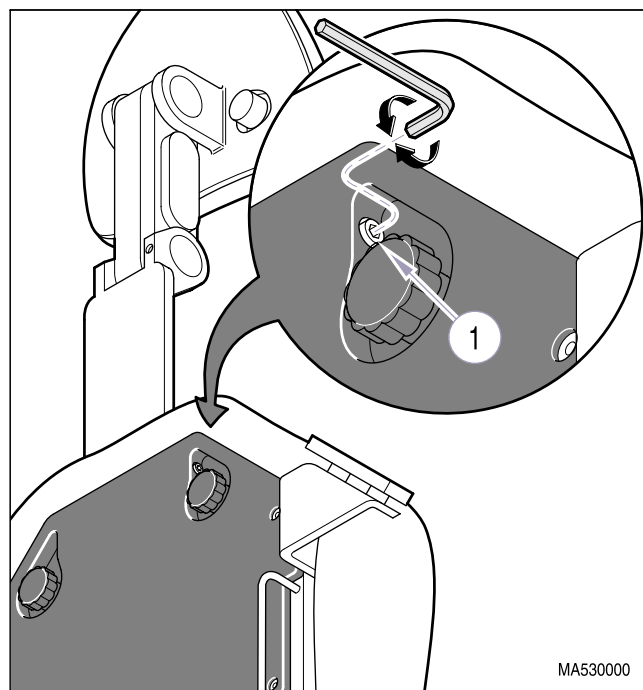

Figure 4-40. Headrest Slide Mechanism Adjustment
- (1) Loosen screw (1, Figure 4-40) until desired friction setting is achieved.